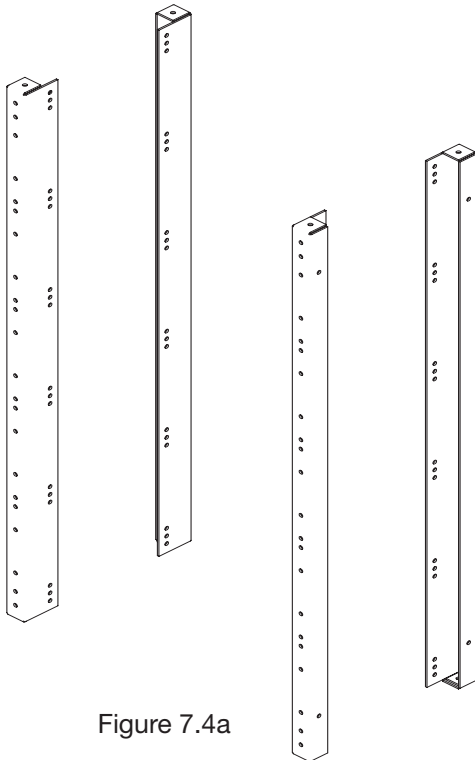

Figure 7.4a
- This rack has 4 corner frames to which the shelves, top and cross braces will be fastened to. See Figure 7.4a.